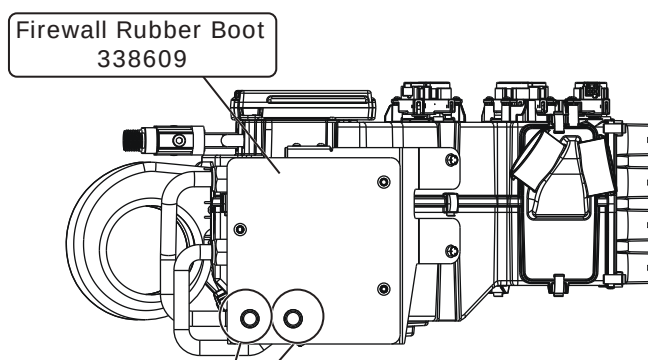

Figure 5
10. Remove the double-sided tape backing, and install the firewall rubber boot over the (2) heater hardlines. Keep the hardlines centered and tight inside the bracket holes (See Figure 5, below). **NOTE: Remove the heater line caps before installing the rubber boot. Replace the caps onto hardlines after rubber boot has been installed. Be sure the heater hardline holes and the threaded holes are centered with the firewall rubber boot holes for a correct fit.**